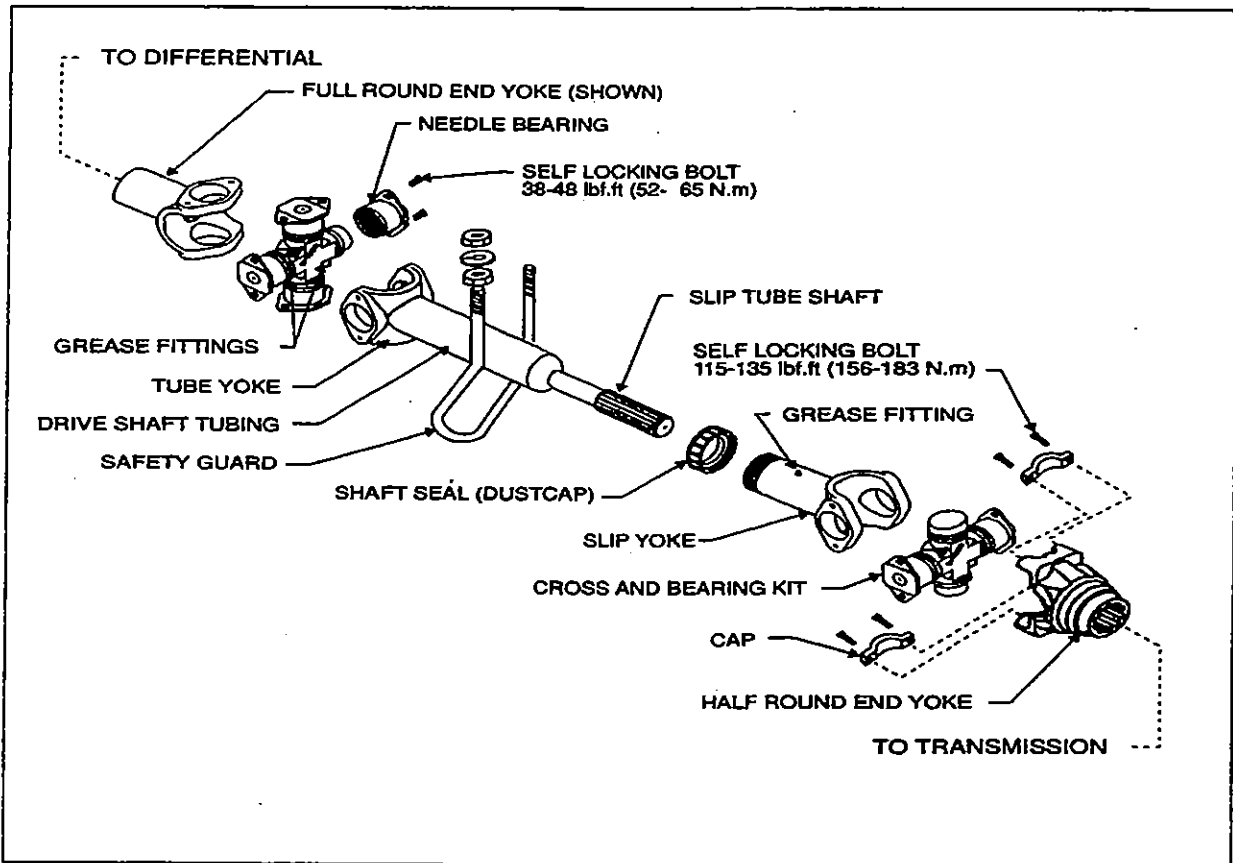

Figure 1: Propeller Shaft Assembly
The propeller shaft transmits power from the transmission to the differential (refer to Fig. 1). According to the transmission model with series 60 engine, two lengths of propeller shafts are available. Refer to paragraph "6. Specifications" at the end of this section for details. Both propeller shafts are "Dana 1810 " type and each shaft is tubular. They are provided with two heavy-duty universal joints (Fig. 1).
- Screw bolts to the specified torque ( Fig. 1).